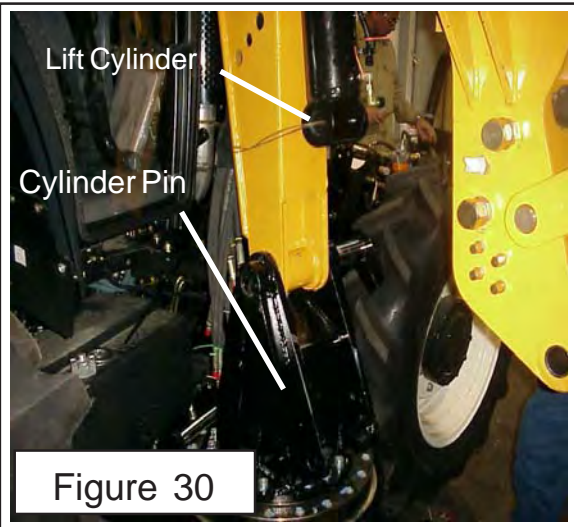
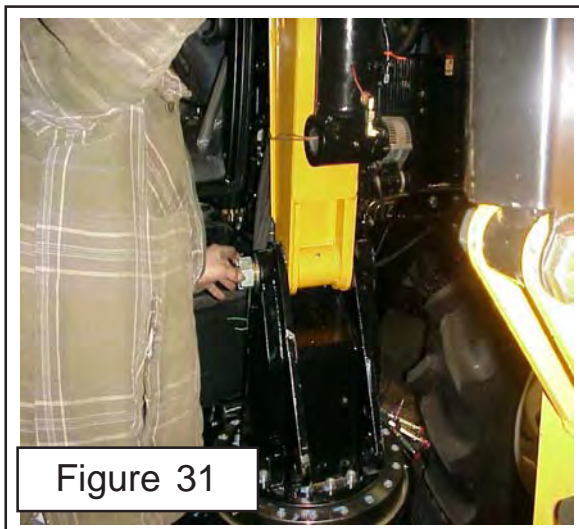

Figure 30
Figure 31
10. Lower the boom down onto the turret, align the boom hole with the turret hole and insert the boom pivot pin (See Figure 30). Install and tighten the boom pivot pin retaining nut (See Figure 31).
11. Reconnect the lift cylinder to the turret (See Figure 30)